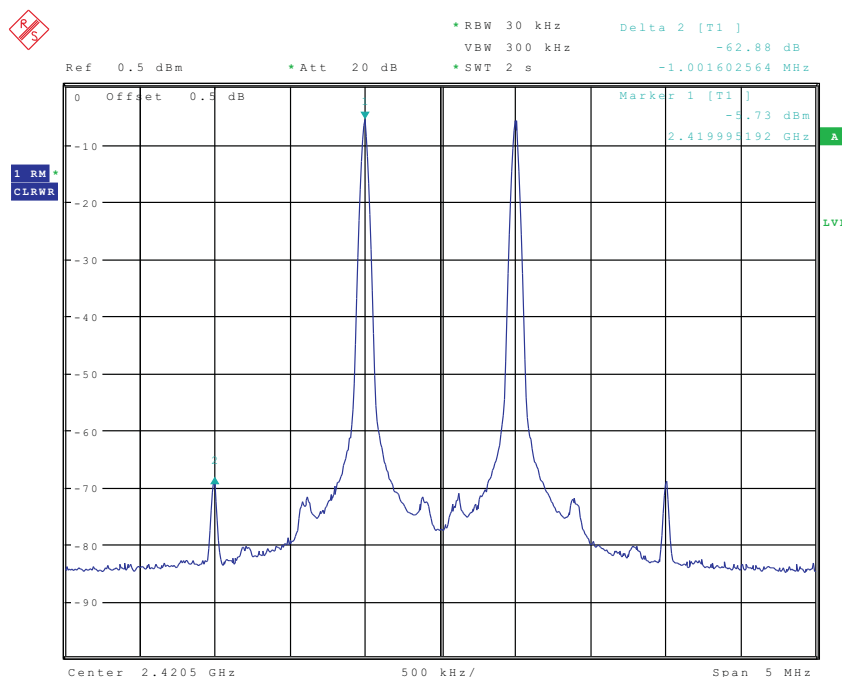
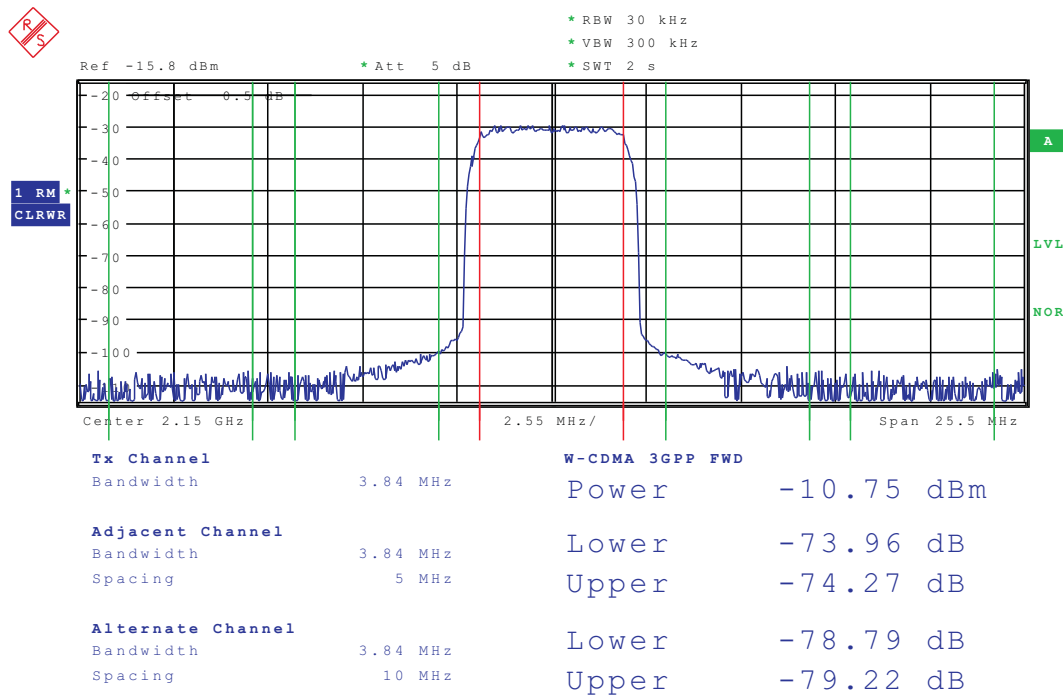
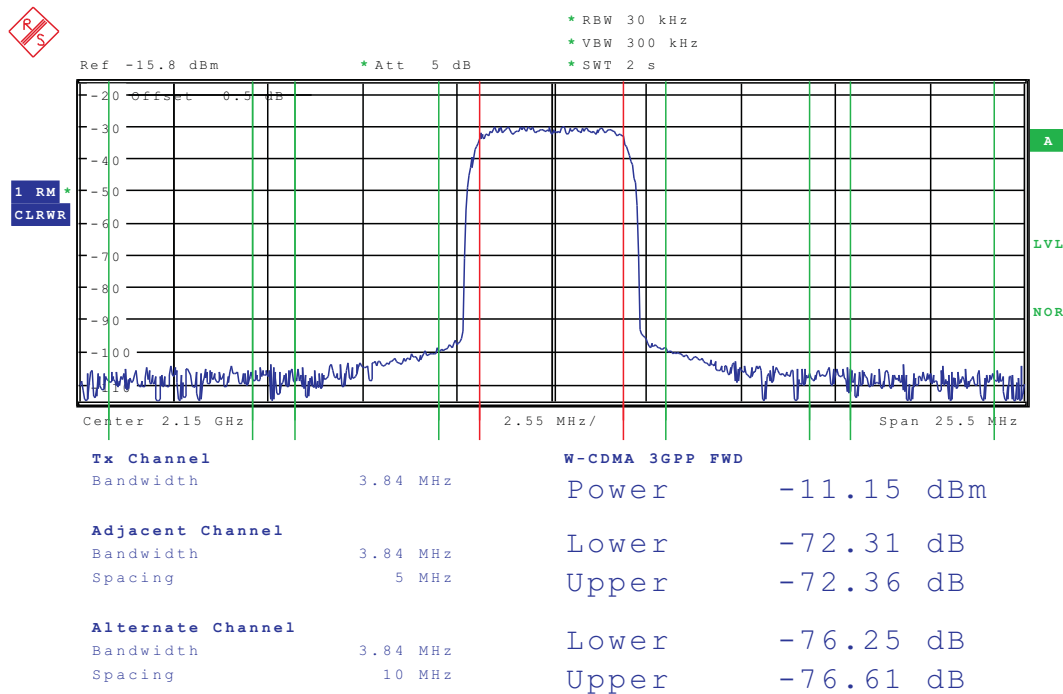

Figure 6. Two-Tone IMD Performance: LO = 2400 MHz, DAC Clk = 614.4 MHz, 2x Interpolation, IF = 20, 21 MHz
Figure 7. WCDMA ACPR: LO = 2120 MHz, DAC Clk = 614.4 MHz, 2x Interpolation, 30-MHz Offset
Figure 8. WCDMA ACPR: LO = 1966.4 MHz, DAC Clk = 614.4 MHz, 2x Interpolation, $f_s/4$ mixing, 30-MHz Offset
7. Monitor the output signal at the RF output connector. If default LO frequency of 2400 MHz is used and the TSW3100 is set up with two tones at 20 MHz and 21 MHz, then the tones seen in Figure 6 are at 2420 MHz and 2421 MHz.
Figure 6, Figure 7, and Figure 8 show the typical two-tone and ACPR performance of the DAC3282 EVM from the setup in Section 3.4. This performance incorporates the DAC device and the TRF372017 modulator device.